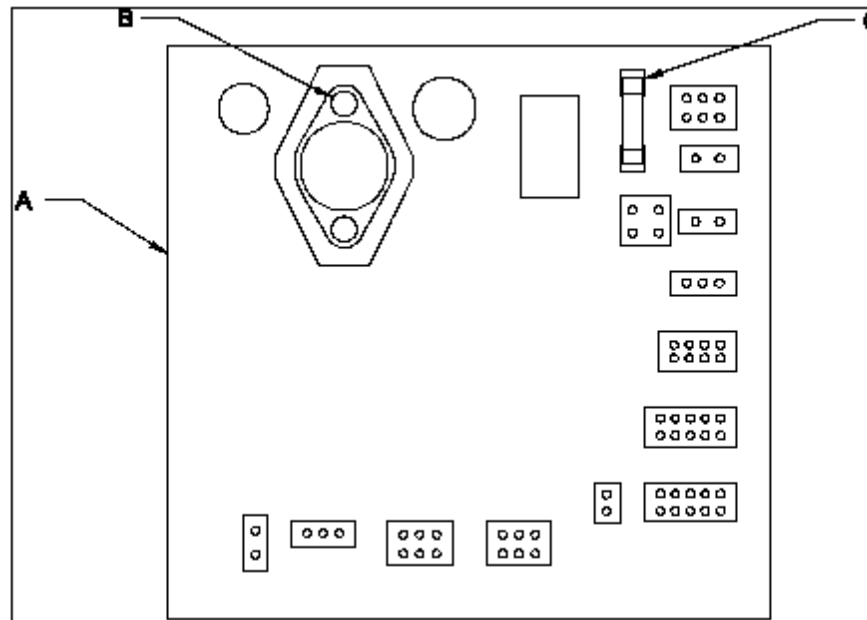

Figure 3-9: Control Voltage Check – Voltmeter Connections
4. Connect the voltmeter. (See Figure 3-9.)